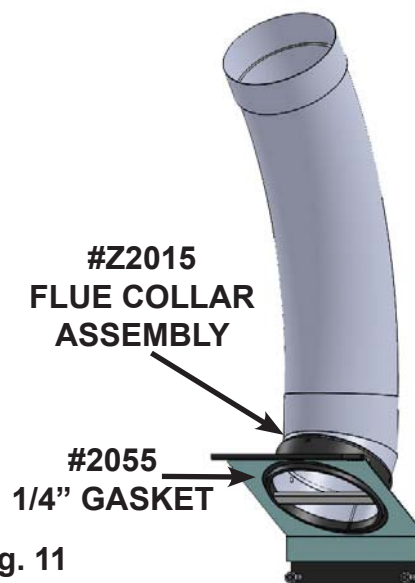

Fig. 11
1. For ease of install; once chimney piping is completely installed and attached to the provided flue collar assembly / flue extension, leave flue collar hanging roughly 2 feet above the floor of the fireplace. This will enable unit to be pushed back into the fireplace opening without interference and allow for an easy grab through the bypass door opening to install. (**Fig. 11**) Ensure 1/4" gasket is intact on the bottom of the flue collar assembly before installation.